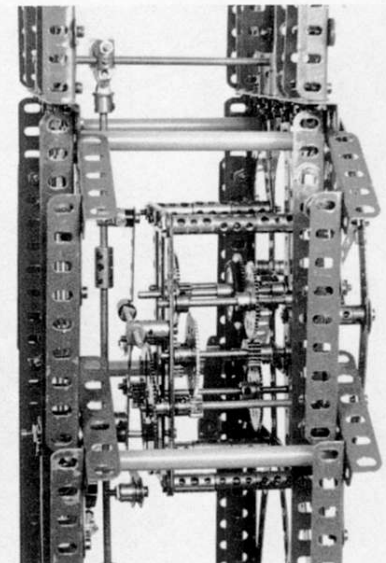

FIG. 12: Clock mechanism as viewed from the '9 o'Clock' position.
**GEAR TRAIN Figures 12, 13, 14, 15**